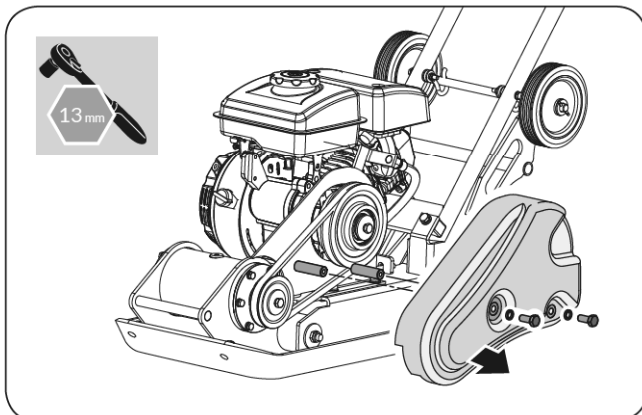

Figure 7a
2. Remove the belt guard to access the V-belt(s). (See **Figure 7a**)
2. Remove the belt guard to access the V-belt. (See **Figure 7a**)